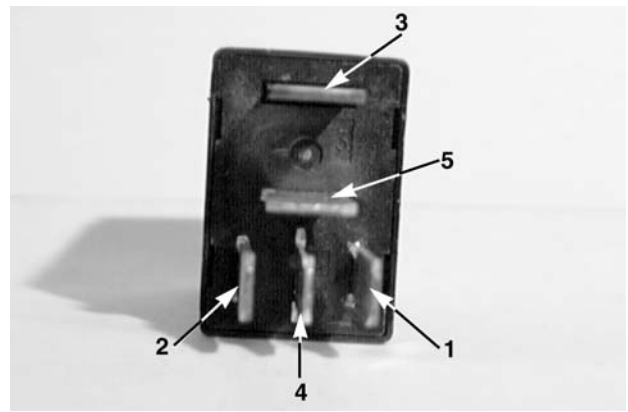

**Figure 9-91**
2. Remove the PTO relay from the wiring harness connector. See Figure 9-91.